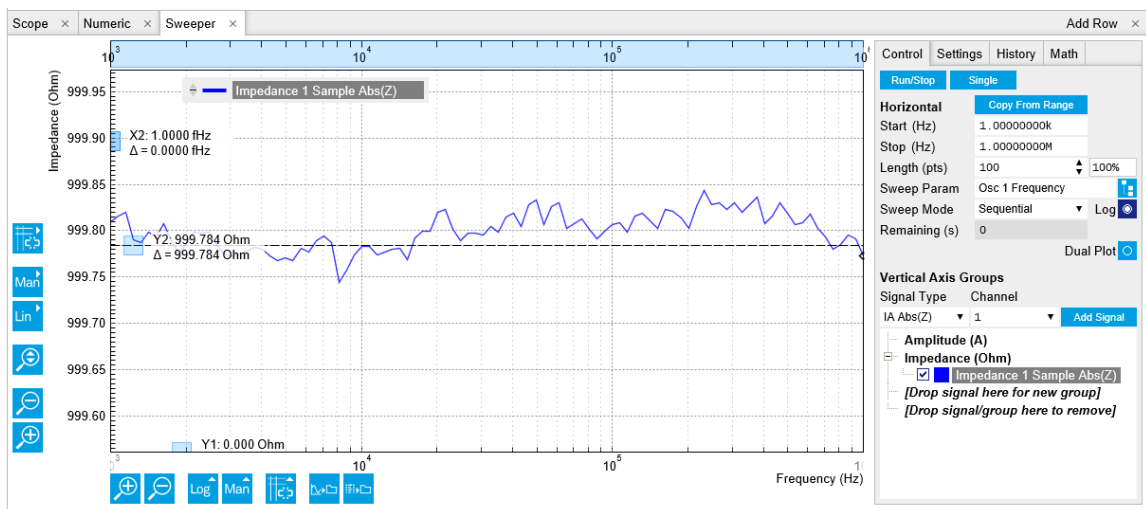

Figure 3.19. LabOne Sweeper showing the frequency dependence of a 1 kΩ DUT
Start the frequency sweep by clicking on **Single**. The screenshot in Figure 3.19 shows the measurement in the plot section of the Sweeper tab. It shows a perfectly flat curve for the real part of the impedance Abs(Z) within 0.05% of 1 kΩ as is indicated with the cursor for the vertical axis. Whereas our 1 kΩ DUT has no notable frequency dependence between 1 Hz and 1 MHz, very large or small resistors will typically show a change in Abs(Z) towards high frequencies due to the spurious capacitance or inductance.